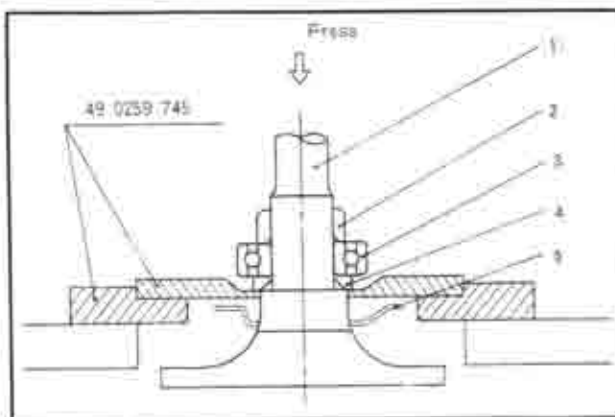

Fig. 9-2 Removing of bearing
2. Using the bearing remover set (49 0259 745), support the spacer and press the axle shaft out of the collar and bearing, as shown in Fig. 9-2.